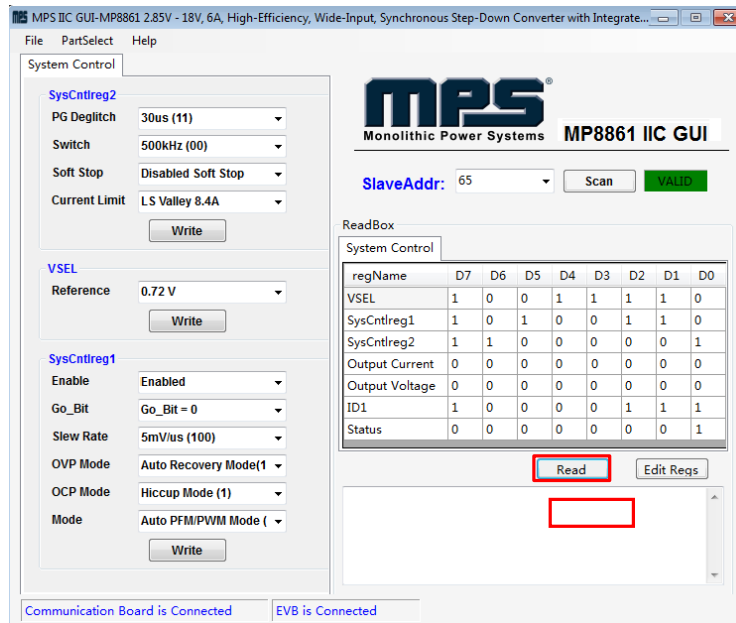

Figure 9: Values from I2C Shown in Table
- Click the **"PartSelect"** button to select the MP8861 (see Figure 7). The Register Control menu will appear on the left side. The I2C register values will be read and displayed on the right side after clicking the **"Read"** button (see Figure 9).